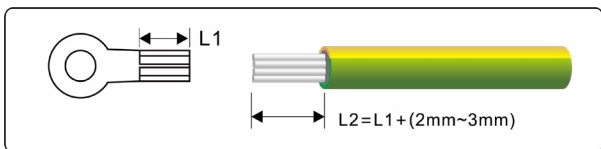

Figure 5.1 Stripped length (unit: mm)
Step 1 Remove an appropriate length of the insulation layer from the PGND cable using a wire Stripper; the length is a little bit longer than that of OT terminal's crimping end by 2mm~3mm, as shown in **Figure 5.1**.